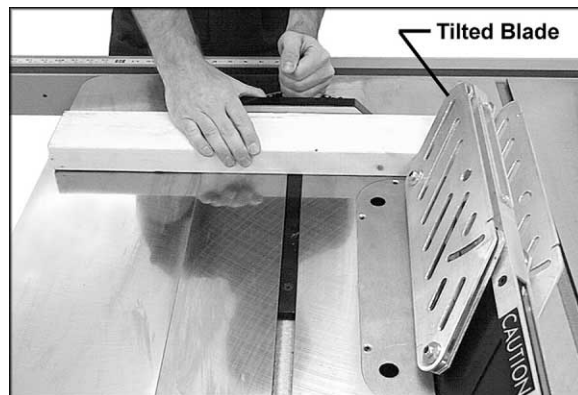

Figure 34
1. A bevel cut is a special type of operation where the saw blade is tilted at an angle less than 90 degrees to the table top. See Figure 34. Operations are performed in the same manner as ripping or crosscutting except the fence or miter gauge should be used on the right-hand side of the saw blade to provide added safety in avoiding a binding action between the saw blade and the table top. When beveling with the miter gauge, the workpiece must be held firmly to prevent creeping.